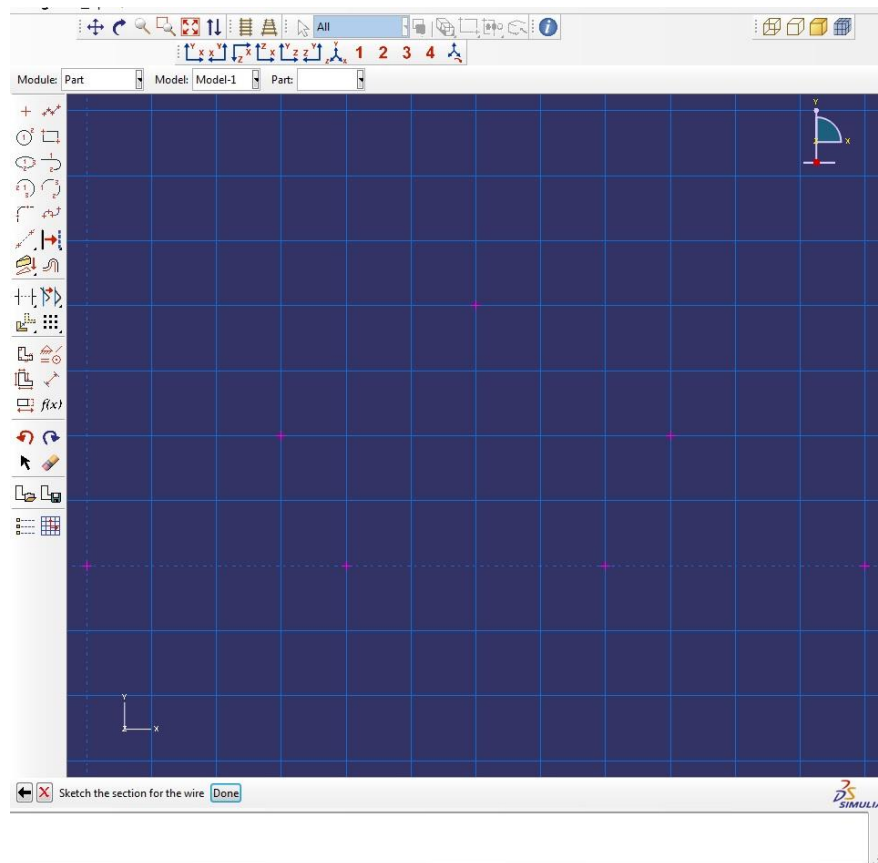

Figure 4. View of Seven Points
- If all the points cannot be seen in the Viewport, click **F6** on your computer keyboard to auto-fit the window to the contents. After auto fitting, the screen should look identical to Figure 4.